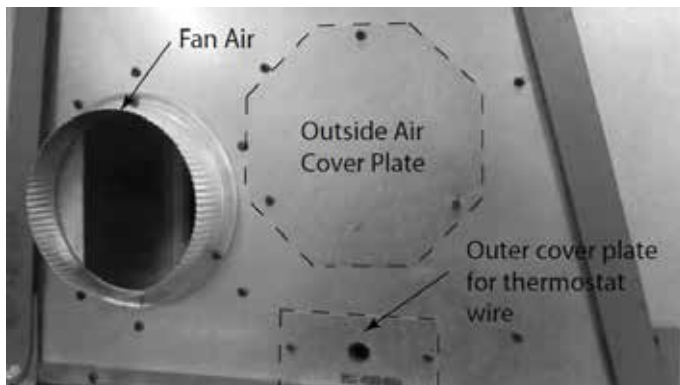
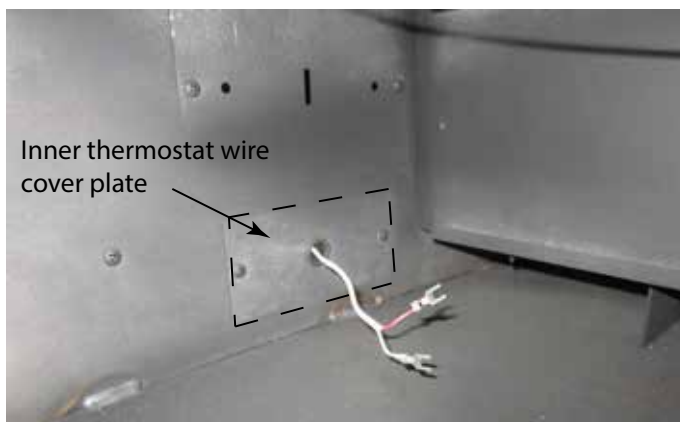

Figure 3.6 Left Side Shown
Figure 3.7
- The thermostat wire will be installed on the opposite side of where the electric comes in at. See Figure 3.6.
- Remove the outer thermostat wire cover plate and insert the end of the wire with the spade ends on it through the hole in the cover plate. See Figure 3.6. Continue inserting the wire into the fireplace and through the hole in the inner cover plate. See Figure 3.7.